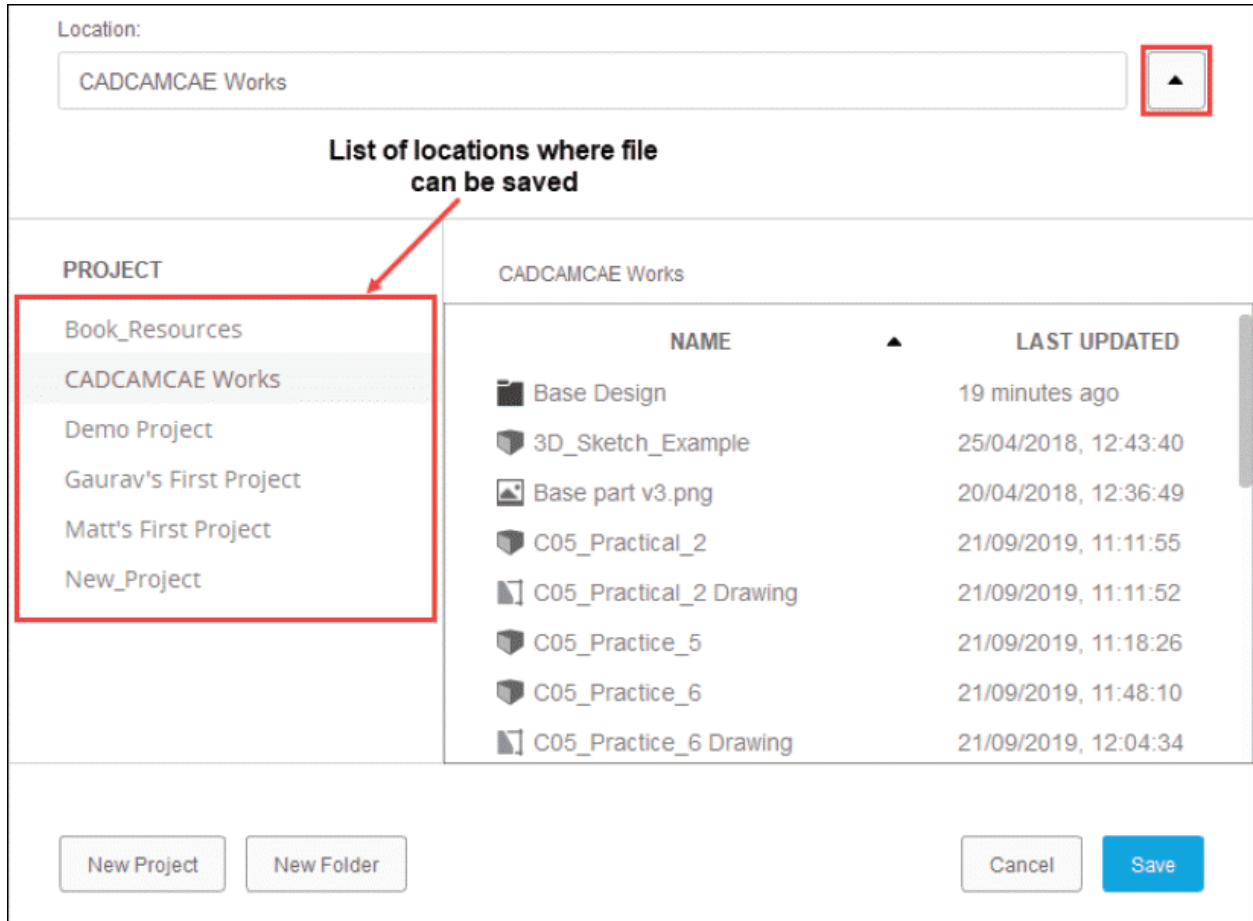

Figure-24. Locations to save files
- Click on the down arrow next to **Location** edit box in the dialog box if you want to select a different location on cloud. A list of locations created for/by you in Autodesk Cloud will be displayed; refer to Figure-24.